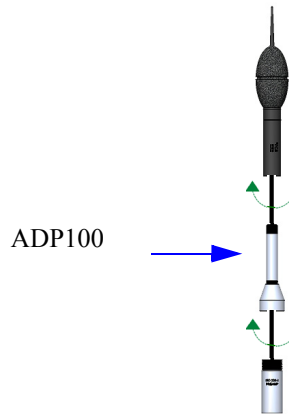

FIGURE 2-3 1 1/2" Pipe Mounting
- Figure 2-3 shows the 1 1/2" BSPF assembly.